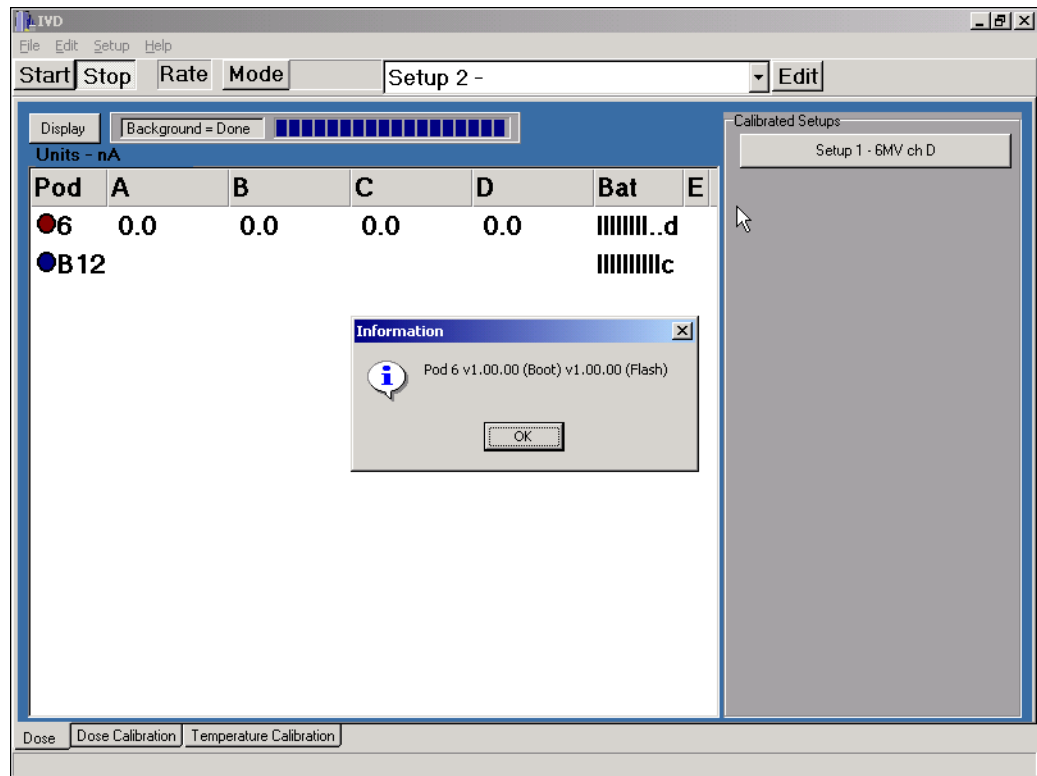

Figure 4-20. Firmware version display
- 4 A pop-up box will show the firmware version for the selected unit (Figure 4-20).